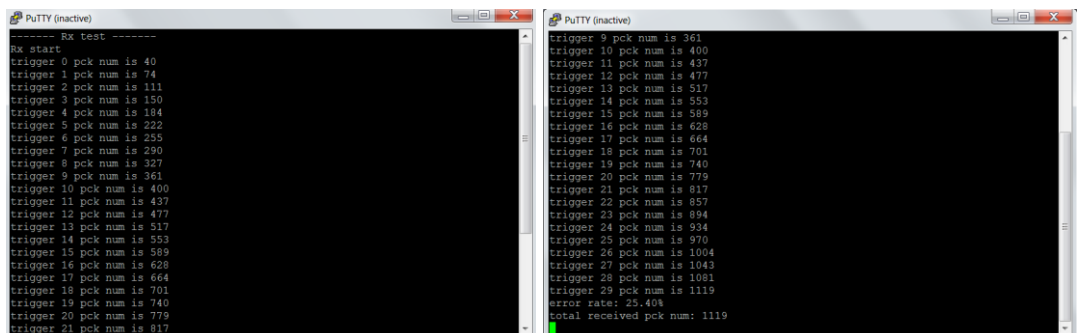

Fig 22. Rx sensitivity PER rate
- The Rx sensitivity test result contains channel 0, channel 19, and channel 39 (three-channel testing data). The PER rate is shown in the RFCOMM software and the Rx sensitivity power level is taken from the N5189B. The PER rate is shown in Fig 22.